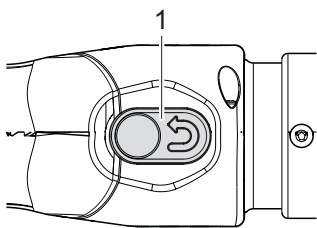

Fig. 17: Reset button
2. Press the Reset button firmly (Fig. 17/1).